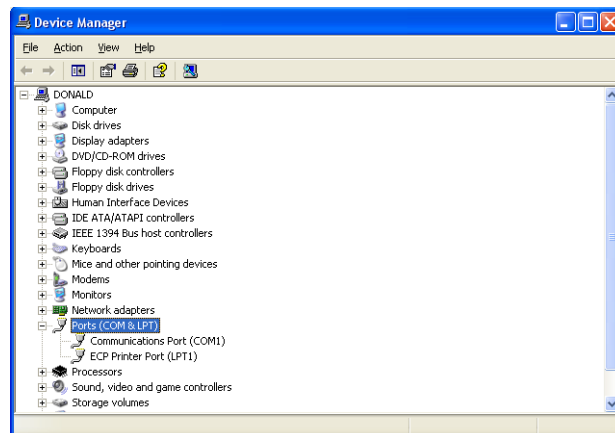

Figure 1-10 Device Manager - Ports List
- Double-click on **Ports (COM & LPT)** and the list of ports appears below (Figure 1-10).
- Double-click on the required port and the *Communications Port Properties* dialog appears. Click the **Port Settings** tab and it appears (Figure 1-10).